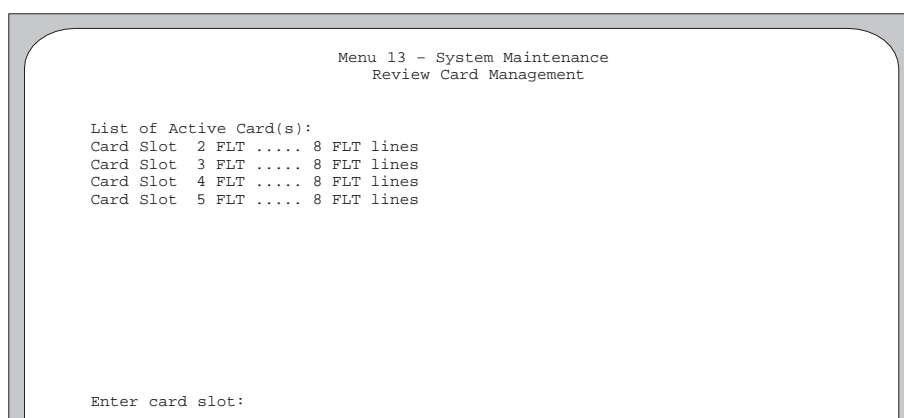

Figure 12-5. Example of Menu 13.11, Review Card Management.
6. From the SMT Main Menu, access Menu 13 – System Maintenance, then menu 13.11, Review Card Management, as shown in the example in Figure 12-5.